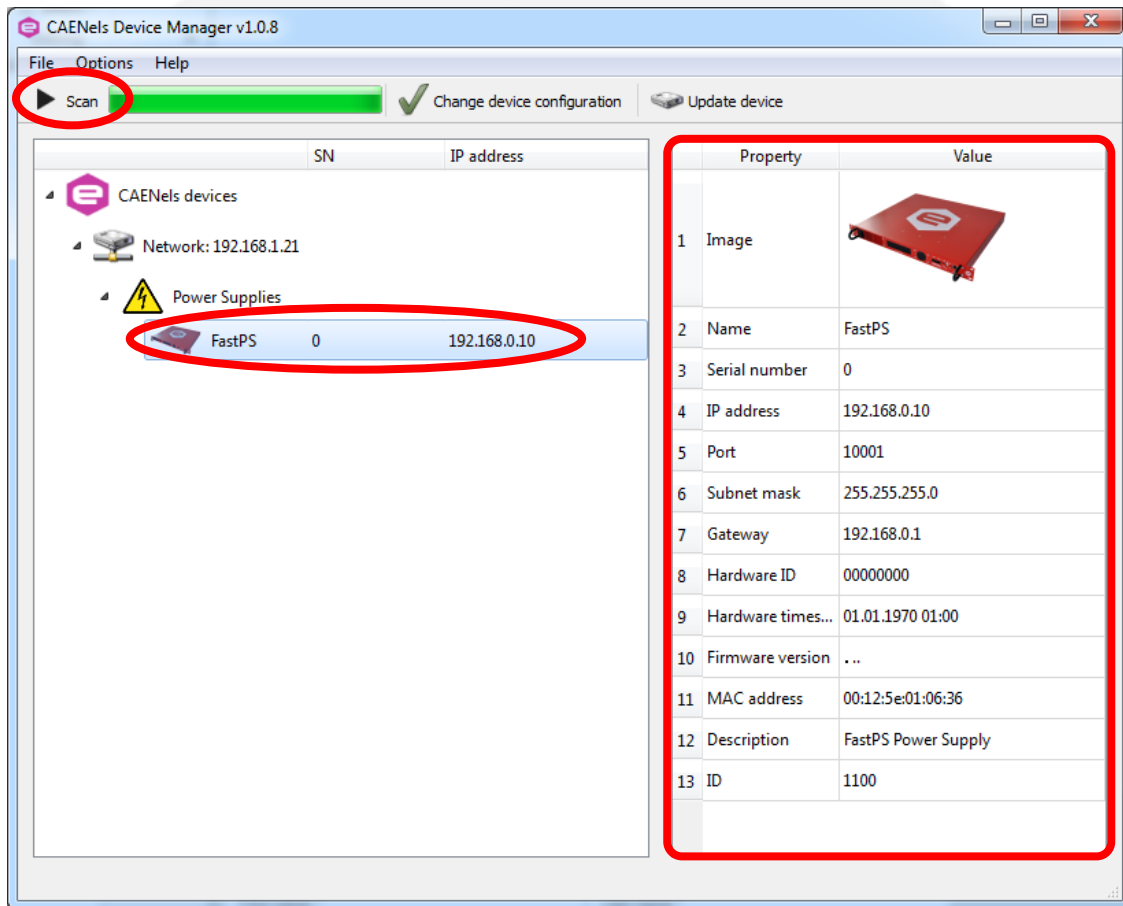

Figure 1: Device Manager - Main interface
- Perform a scan to discover the connected e.g. FAST-PS device(s) by clicking the “Scan” button as indicated in **Figure 1**. If there are multiple available connections it is possible to select the network/networks to be scanned in the “Selected network interfaces” window available under the “Options” menu. All the information about the selected devices are shown in the right side of the main window.